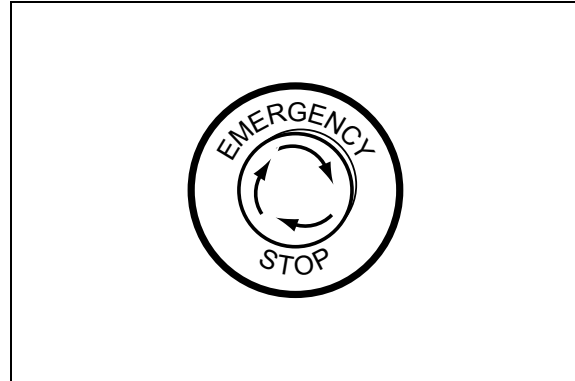

Figure 4-2: Emergency Stop Button
2. Pull out the Emergency Stop (E-stop) button (Figure 4-2).